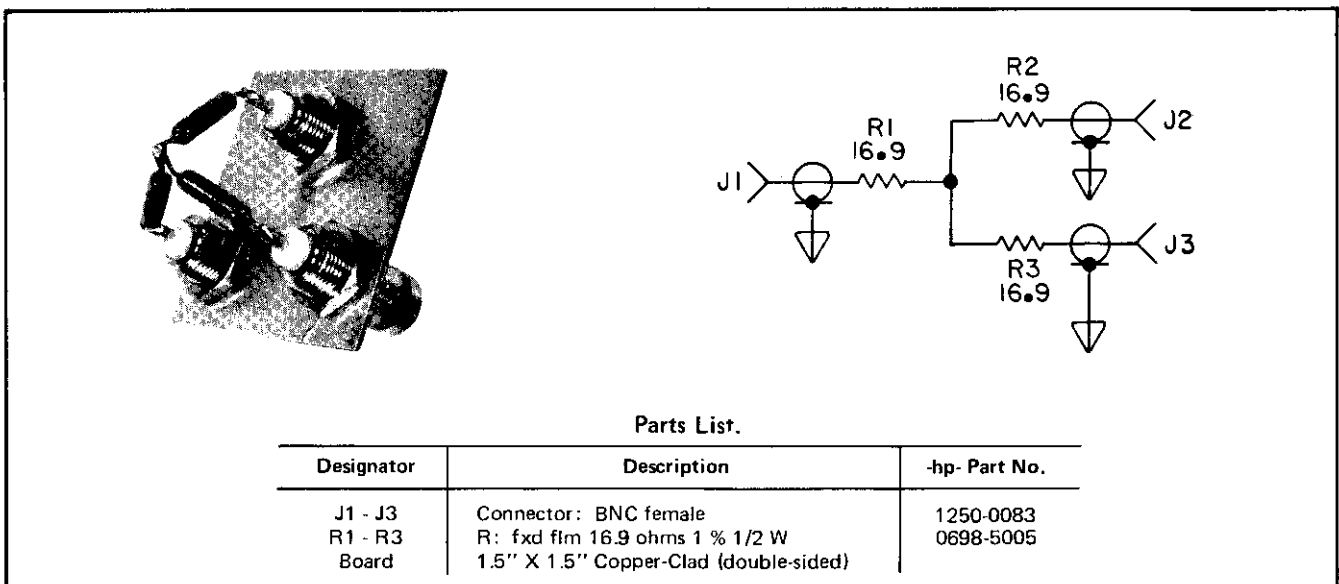

Figure 5-1. Power Splitter.
- (2) 50-Ohm Feed-Thru Terminations (-hp- Model 11048C)
- 50-Ohm Power Splitter (See Figure 5-1)
- (1) 48" 50-Ohm Cable with BNC connectors (-hp- 11170C)
- (2) 24" 50-Ohm Cables with BNC connectors (-hp- 11170B)